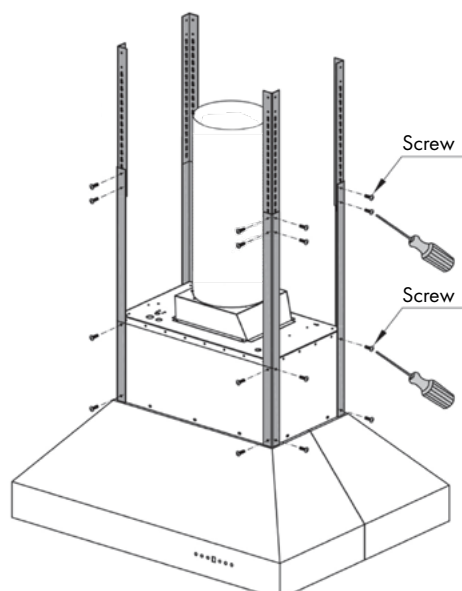

Figure 3
3. Attach the four long angle iron pieces to the hood's motor housing. *Figure 3*
4. Determine desired height and attach the four short angle iron pieces to the long angle iron pieces that are attached to the hood. *Figure 3*